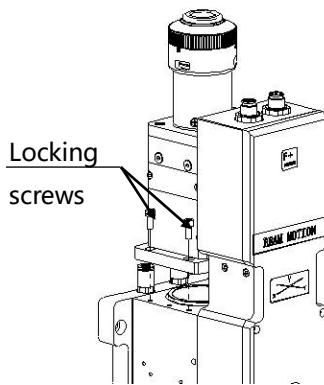

Fig 6.3 - Remove the collimating component
- Use a 3mm inner hexagon spanner loosen the screws of collimating components(as shown in figure 6.3), and seal the part(connected to collimating components) with Crepe Paper to prevent dust from falling inside the laser head.